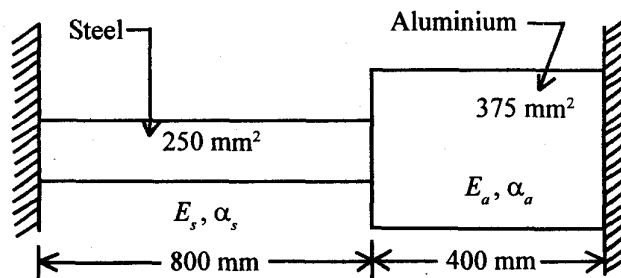

Fig. 1
3. (a) The composite bar, consisting of steel and aluminium components as shown in Fig. 1, is connected to two grips at the ends at a temperature of 60°C . Find the stresses in two rods when the temperature falls to 20°C (i) if the ends do not yield, (ii) if the ends yield by 0.25 mm. Take $E_s = 2 \times 10^5$ and $E_a = 0.7 \times 10^5 \text{ N/mm}^2$, $\alpha_s = 1.17 \times 10^{-5}$ and $\alpha_a = 2.34 \times 10^{-5}$ per $^\circ\text{C}$. The areas of steel and aluminium bars are 250 mm^2 and 375 mm^2 , respectively. 12